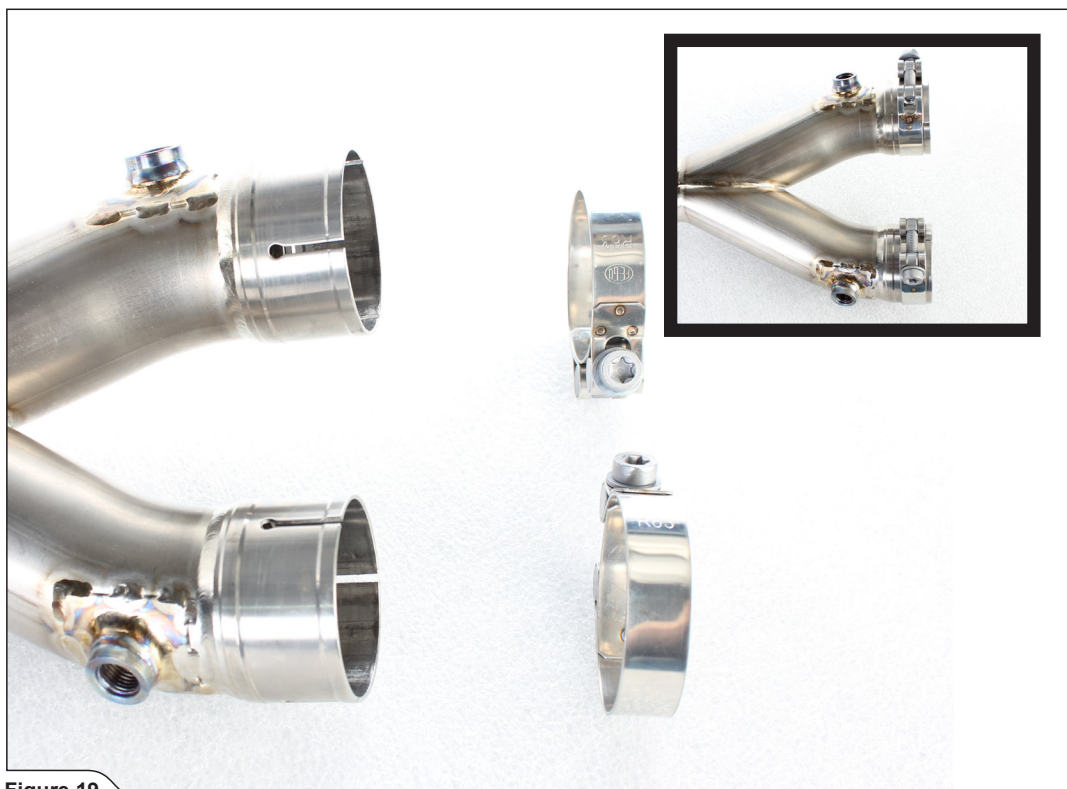

Figure 19
1. Install clamps from Akrapovič installation kit onto the link pipe as shown (Figure 19).